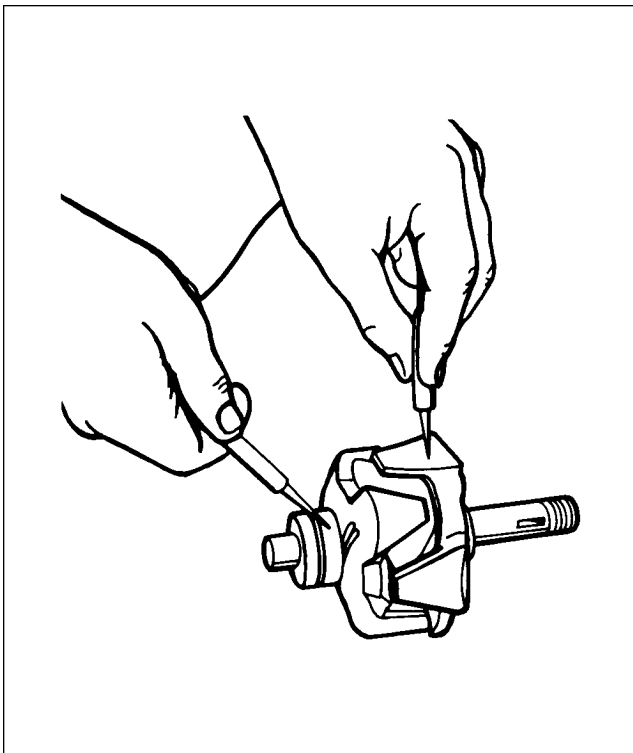
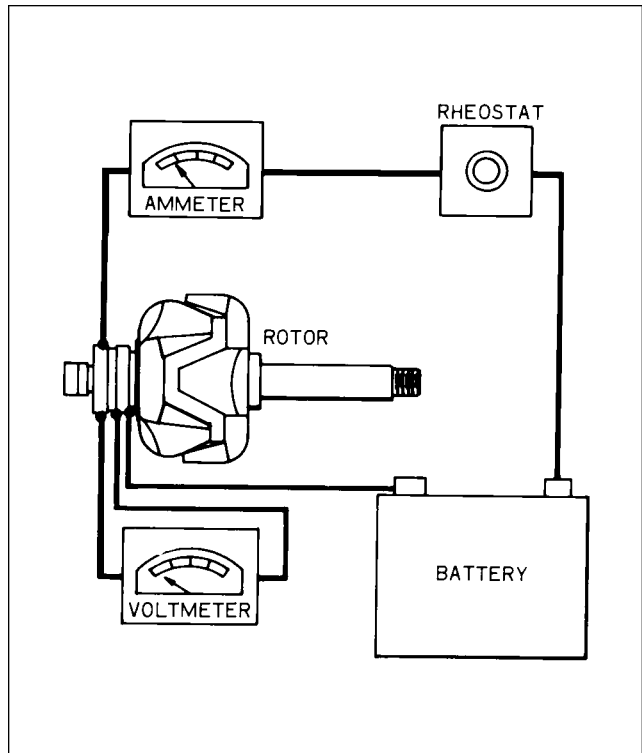

Figure 24-33. Testing Rotor for Ground
Figure 24-34. Testing Rotor for Shorts
1. Rotor: The rotor should be tested for grounded or shorted windings. The ground test can be made with test probes, connected in series with a 110-volt test lamp, an ohmmeter or any type of continuity tester. (Refer to Figure 24-33.) There must not be any continuity between the slip rings and the rotor shaft or poles. To test for shorted turns in the rotor windings, connect a voltmeter, ammeter and rheostat as shown in Figure 24-34, or use an ohmmeter. Rotor current draw and resistance are listed in the Alternator Service Test Specifications paragraph. Excessive current draw or a low ohmmeter reading indicates shorted windings. No current draw or an infinite ohmmeter reading would indicate an open winding.